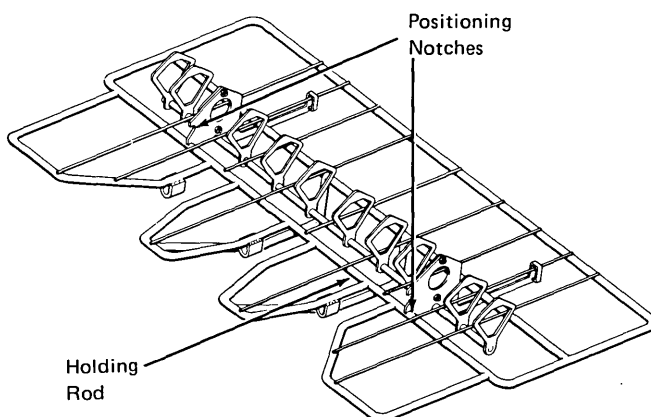

Figure 31. Hinged Paper Rail (Up Position)
1. Upward Adjustment. Raise the paper rail (Figure 31) and engage the notches in the holding rod.